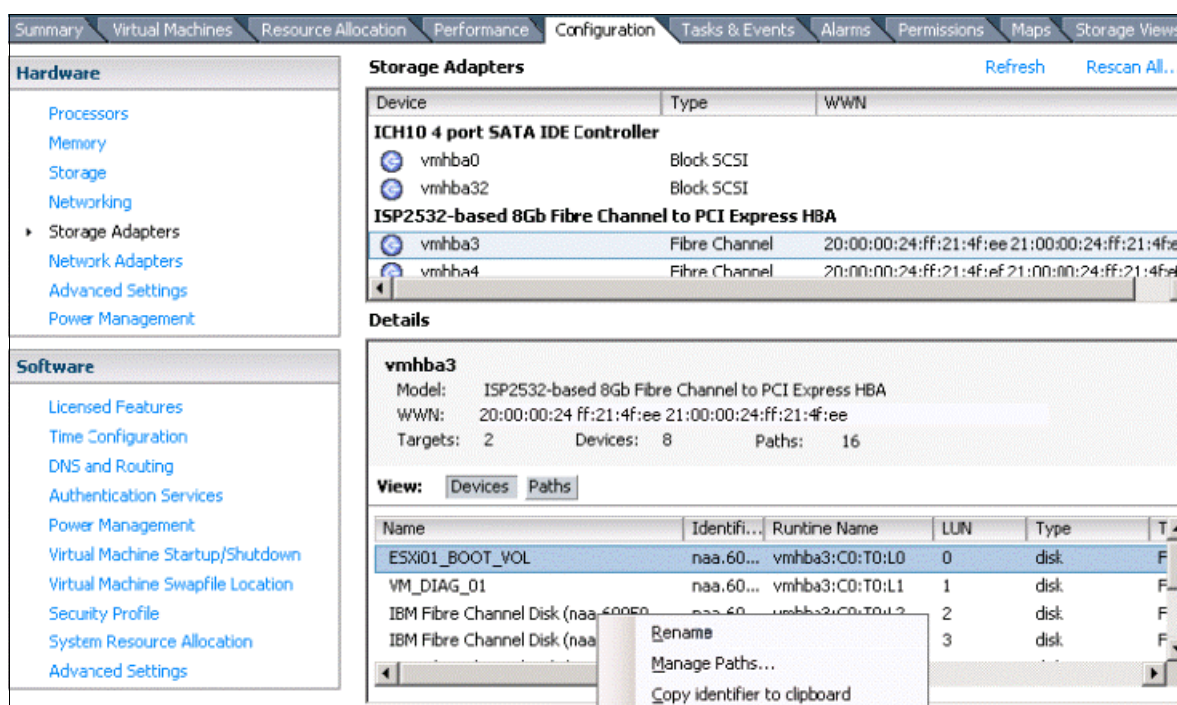

Figure 5-92 Manage HBA Paths
1. In **Configuration** tab, select the Fibre Channel adapter. Next, right-click a *storage device* to select **Manage Paths**, as shown in Figure 5-92.